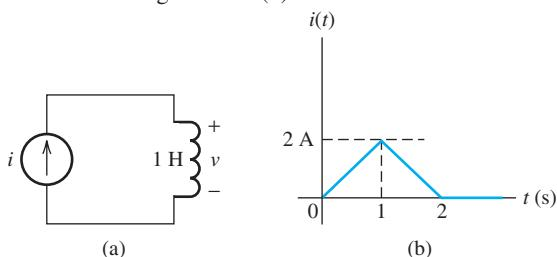

FIGURE P4.40 (a) Inductor circuit; (b) waveform of $i(t)$.
- 4.40 (H)** For the circuit shown in Figure P4.40(a), the current $i(t)$ is shown in Figure P4.40(b).